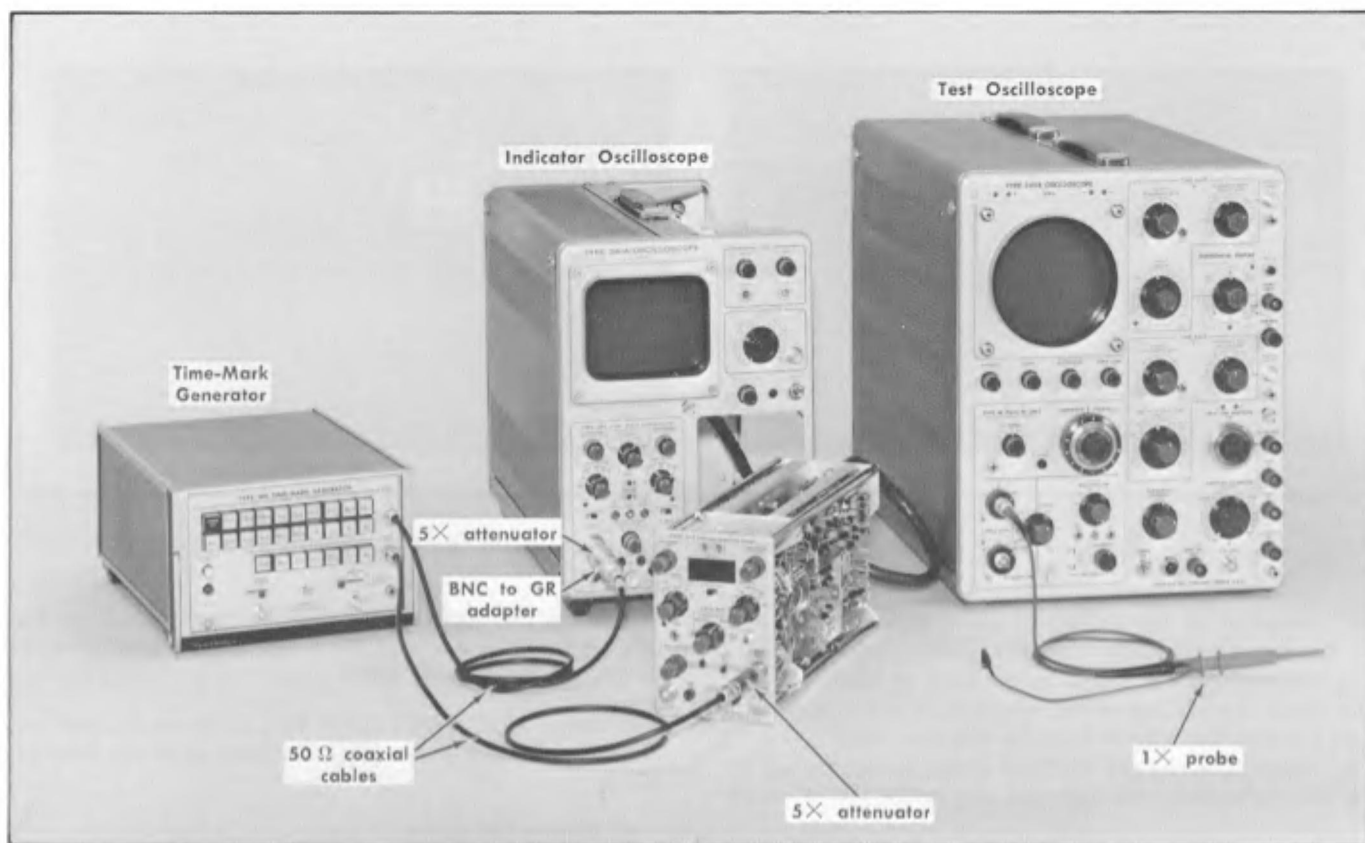

Fig. 7-22. Initial test equipment setup for steps 19 through 25.
a. Connect the Time Mark Generator Marker Output through a 50  $\Omega$  coaxial cable, a BNC to GR adapter and a 5 $\times$  attenuator to the Vertical Input A connector and connect the Trigger Output through a 50  $\Omega$  coaxial cable and 5 $\times$  attenuator to the 50  $\Omega$  TRIGGER INPUT connector. The equipment setup is shown in Fig. 7-22.